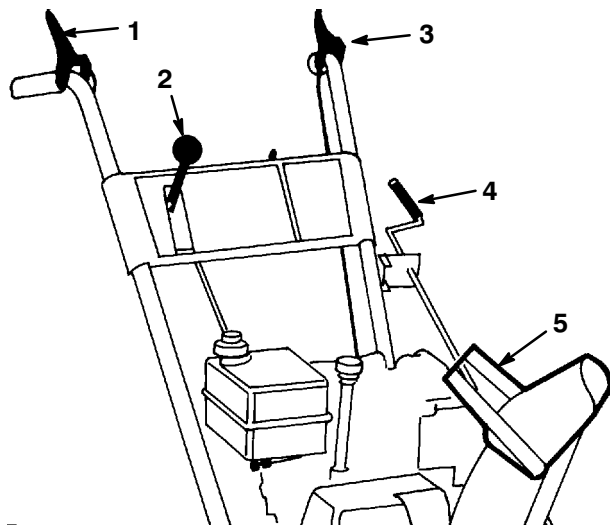

Figure 17
- **Auger/Impeller Drive Control Lever** (Fig. 17)—To engage both the auger and impeller, press the lever against the right handgrip. To disengage, release the lever.
- **Speed Selector** (Fig. 17)—This control has five positions: two reverse and three forward gears. To change speeds, move the speed selector to the desired position. The lever locks in a notch at each speed selection. The speed selector may shift with difficulty in heavy load conditions.
- **Traction Control Lever** (Fig. 17)—To engage the traction (wheel drive), press the lever against left handgrip. To stop traction, release the lever.
- **Discharge Chute Control** (Fig. 17)—Rotate the discharge chute control clockwise to move the discharge chute to the left; counterclockwise to move the chute to the right.
- **Chute Deflector Handle** (Fig. 17)—Move the deflector handle forward to move the snow stream down; rearward to move the snow stream up.
2. Make sure that the auger/impeller drive control lever and the traction control lever are in the *Disengaged* position (Fig. 17).
10. Move the speed selector (Fig. 17) to first gear, squeeze the traction control lever to the handgrip, and then release the traction control lever. If the snowthrower moves forward before engaging the traction drive control lever or after releasing the lever, see *Adjusting the Traction Drive* on page 21.
4. Release the traction control and the auger/impeller drive control levers (Fig. 17).